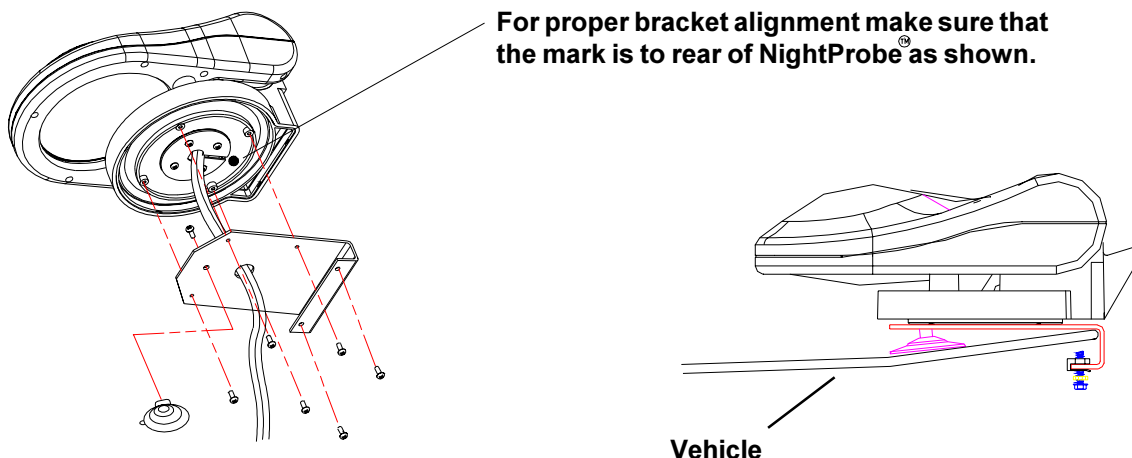

Figure 1
2. Route the cables from the bottom of the spotlight through the mounting bracket as shown in Figure 1.
3. Attach bracket to spotlight with four round hd phillips 6-20 x 3/8" SS as shown in Figure 1.